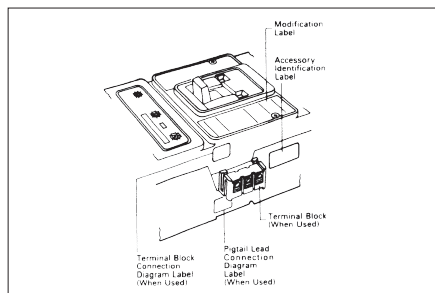

Fig. 2-5. Preferred Mounting Location for Accessory Nameplate Labels
- 2-8. Place accessory labels (supplied with kit) on circuit breaker. (See Fig. 2-5.)